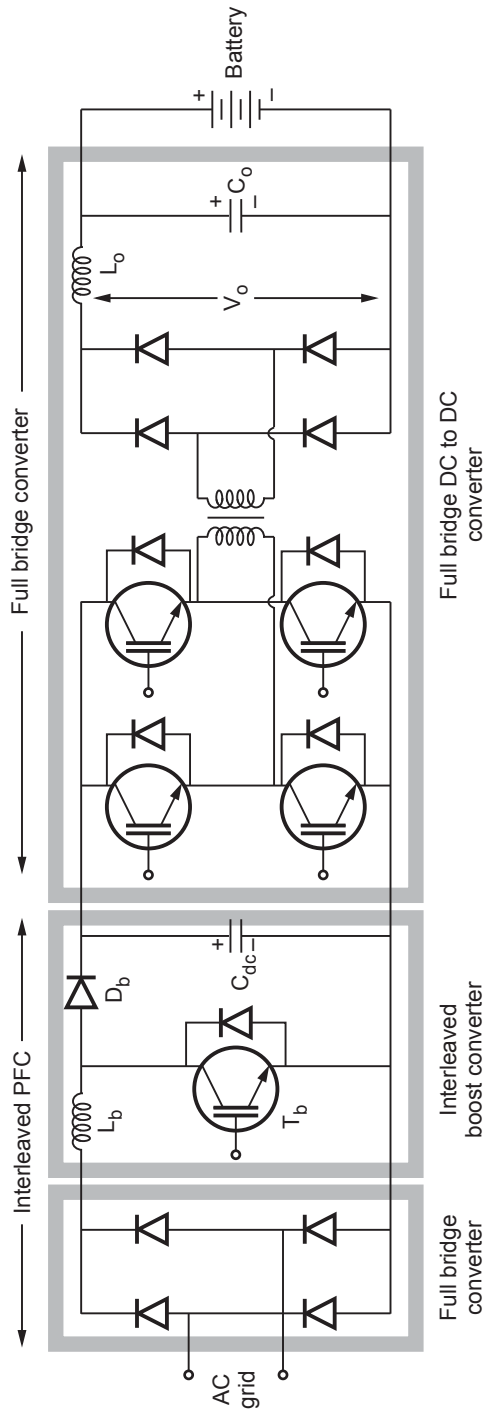

Fig. 6.15.1 Full bridge converter with interleaved boost PFC
- Fig. 6.15.1 shows the level 1 on board charger which consists of full bridge rectifier, DC boost and DC to DC converter. (See Fig. 6.15.1 on next page.)